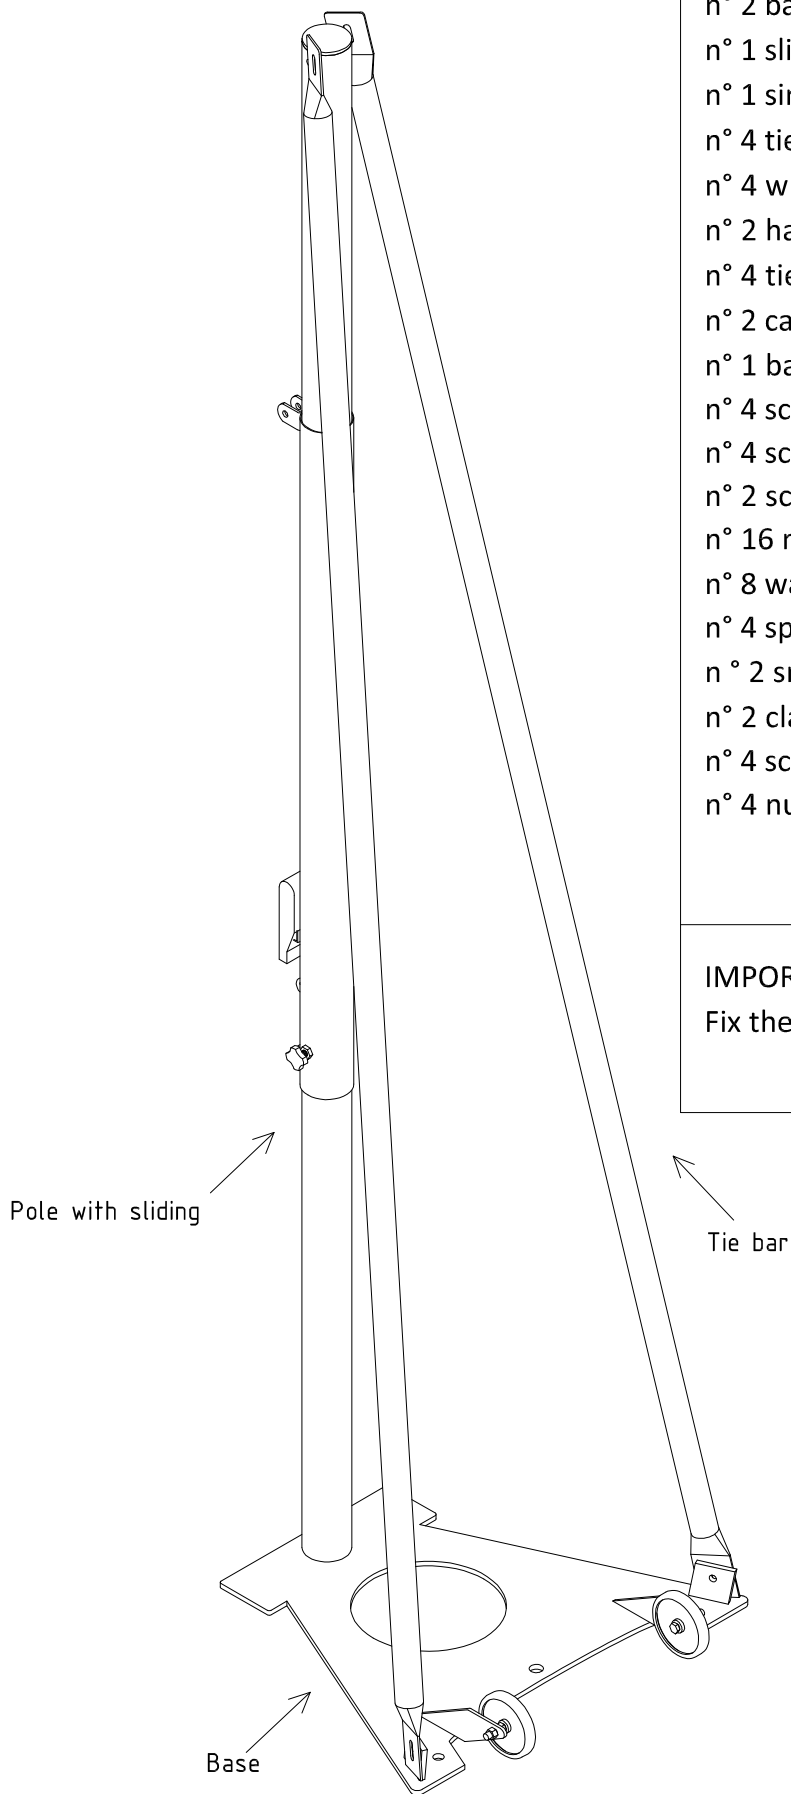

Fig. 2
- Fix wheels on the base (fig. 2)
- Fix the system with tie-rods (Fig.2)